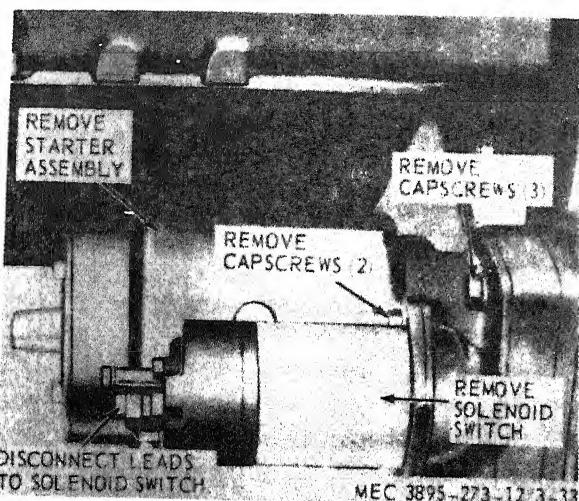

Figure 3-30. Starter and solenoid, removal and installation.
a. Removal. Remove the starter and solenoid as instructed on figure 3-30.
- (1) Clean all parts with an approved cleaning solvent.
- (2) Inspect the starter for wear, defects, and damage. Replace a worn, defective, or damaged starter.
- (3) Inspect the solenoid switch for defects and damage. Check for continuity between terminals with switch in engaged position. Replace a defective solenoid switch.
c. Installation. Install the starter and solenoid in reverse of the instructions on figure 3-30.